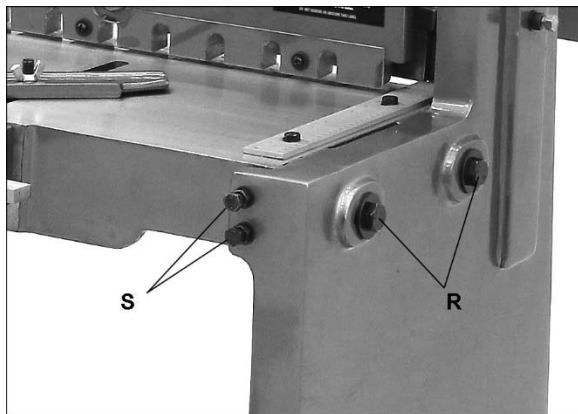

Figure 5
1. Loosen two bolts (R, Figure 5) on each side of shear.
2. Loosen hex nuts and bolts (S, Figure 5). Table must rest squarely on right and left side panels at all four corners while screws are loose. Shim legs at floor if necessary.
**If shear does not cut paper:** Move lower blade toward upper blade. Slightly loosen bolts (R, Figure 5) and loosen hex nuts and turn bolts (S, Figure 5) to move lower blade toward upper blade. Distance between upper and lower blades should be 0.002 to 0.005 inches. Do **NOT** let blades overlap.
Repeat test cut of paper. When satisfied, tighten hex nuts (S, Figure 5) and bolts (R, Figure 5).